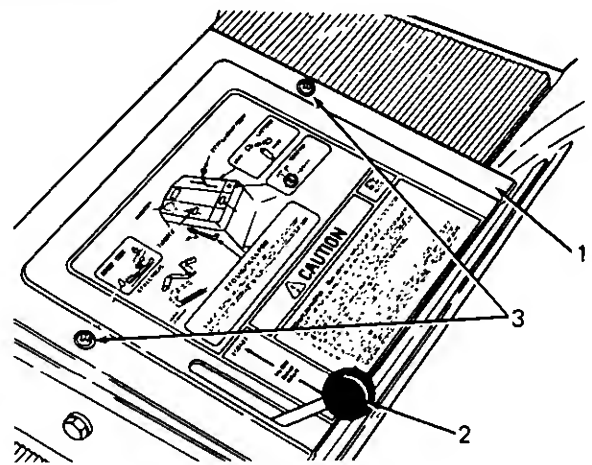

Figure 16
1. Remove two screws holding frame cover to frame in the step through area. (Refer to Figure 16.)